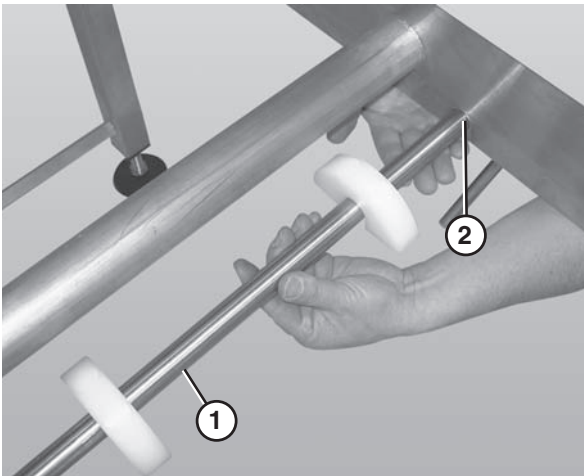

Figure 51
1. Remove the belt returns by pushing up on the return shaft (Figure 51, item 1) and sliding it through the large hole (Figure 51, item 2) in the frame.
2. Lower the opposite end of the return shaft (Figure 51, item 1) and slide it out of the frame.